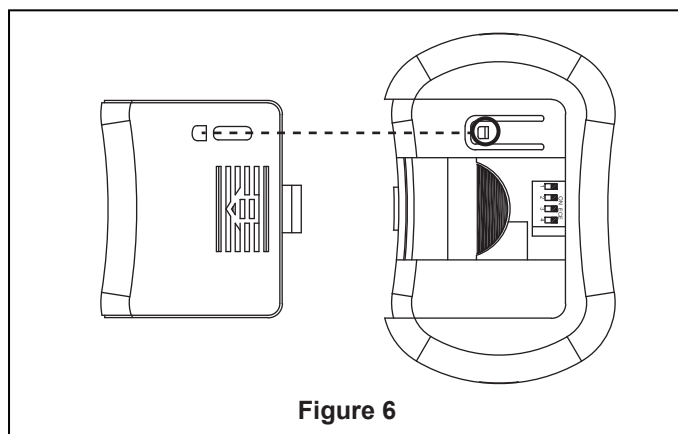

Figure 6
- ☐ 5. Hang the motor assembly as shown. (Figure 6) You can now proceed with the electrical wiring of your fan.
- ☐ 4. Trim the excess belting as shown. The overlap should be approximately one to two inches in length. (Figures 6 & 7)
- ☐ 6. Replace battery cover on remote control. Be sure the hole of battery cover firmly into the tab. (Figure 6)